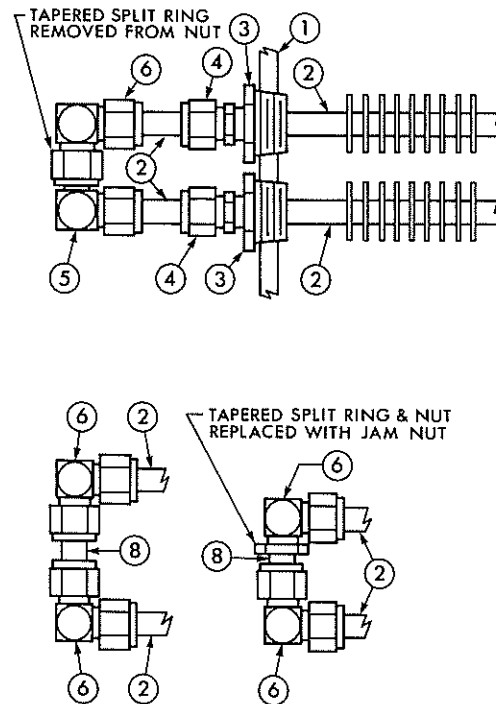

Figure 8
4. For shutdowns at ambient temperatures less than 32°F (0°C), drain the cooling tube system by removing the "loop end" assemblies on the end of the reducer opposite the water inlet. Refer to Figure 8 on Page 3 for typical assemblies and record location of assemblies for reinstallation purposes.